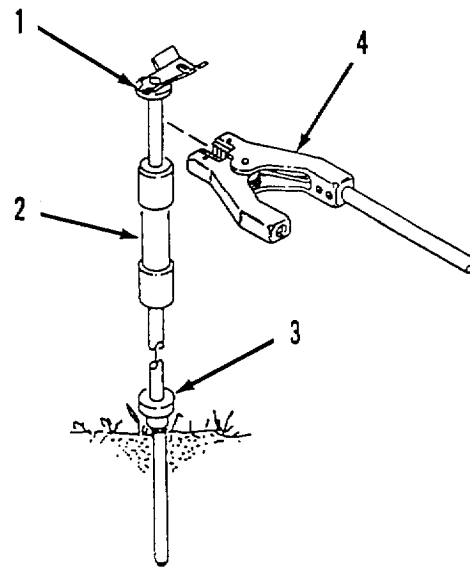

Figure 2-12. Ground Rod Installation.
- (8) Push coupling (13) into discharge adapter (15) on CCR nozzle (10). (Discharge adapter will lock onto coupling.)
- (9) Pull back collar (16) on CCR nozzle (17) and remove cover (18),
- (10) Remove cover (19) from coupling (20) on recirculation nozzle (21).
- (11) Push coupling (20) into discharge adapter (22) on CCR nozzle (17). (Discharge adapter will lock onto coupling.)
- i. Ground Rod Installation. Refer to figure 2-12. Before the HTARS can be placed in operation, it must be properly grounded. A ground rod with a built in slide hammer is supplied for each refueling point. Ground rods must be installed within 6 feet of each refueling point to provide enough slack in grounding cable to connect nozzles to aircraft adapters.
- (1) Place ground rod (1) in vertical position.
- (2) Raise, then lower slide (2) forcefully against stop collar (3). Repeat until collar is flush with surface of soil (rod will be at least three feet deep).
- (3) Using separate ground cable, ground aircraft to ground rod.